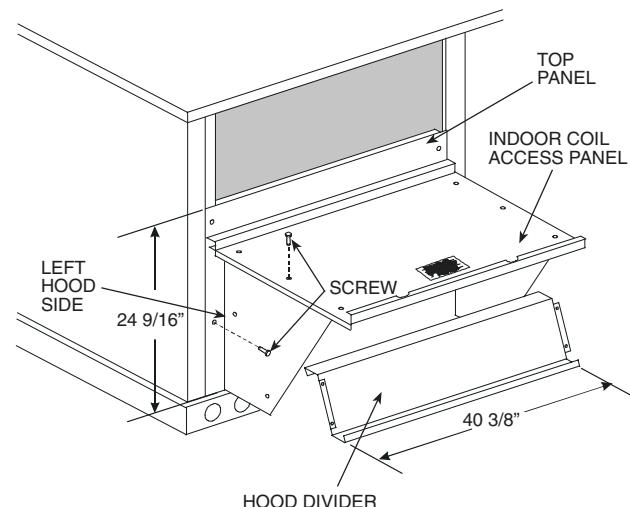

Fig. 21 — Outdoor-Air Hood Construction
4. Swing out indoor coil access panel and insert the hood sides under the panel (hood top). Use the screws provided to attach the hood sides to the hood top. Use screws provided to attach the hood sides to the unit. See Fig. 21.
6. Insert the hood divider between the hood sides. See Fig. 21 and 22. Secure hood divider with 2 screws on each hood side. The hood divider is also used as the bottom filter rack for the aluminum filter.